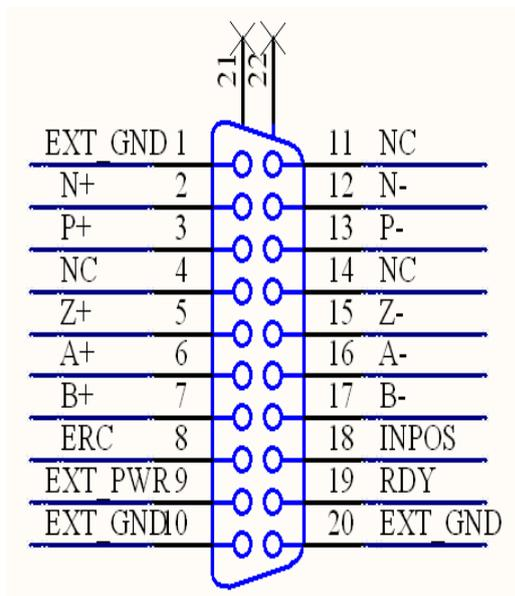

Fig 1-5 Pin definition for CN-XA, CN-YA, CN-ZA, CN-UA
■ **CN-XA, CN-YA, CN-ZA, CN-UA (Fig1-5 connector for each AXIS)**
The connectors CN-XA, CN-YA, CN-ZA, and CN-UA are 20-pin connectors that enable you to connect to the CNA connector of Mitsubishi motor drivers. Fig.1-5 shows the pin assignment for the 20-pin connector on the DN-8468MB, and the Table 1-6 shows its I/O connector signal description.